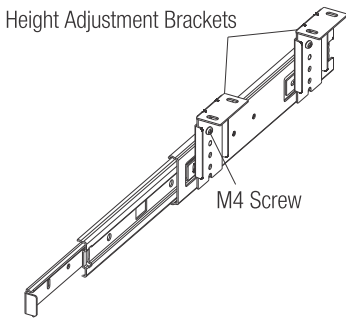

Fig. 2
3. Assemble height adjustment brackets on to slides using M4 screw provided as in Fig.2.